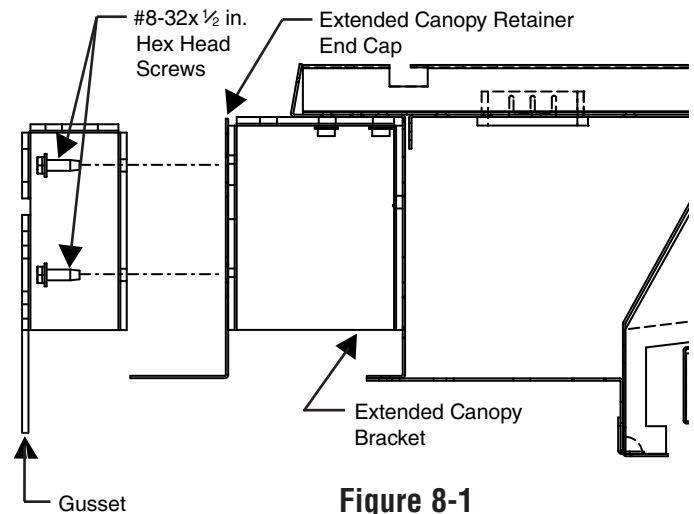

Figure 8-1
- A. Attach gussets as shown in Fig. 8-1.